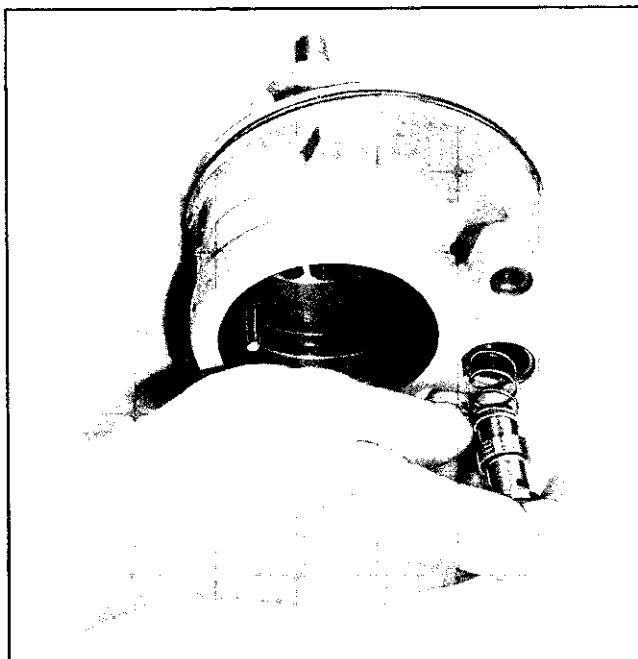
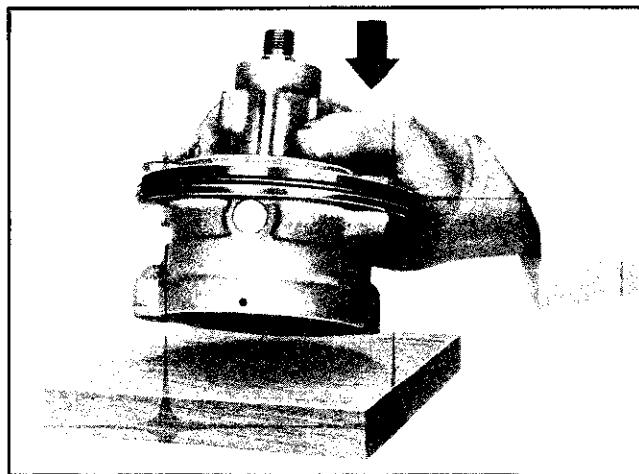

Fig. 9-75 Removing Flow Control Valve
Fig. 9-76 Removing Pressure Plate
8. With pump housing turned over, remove flow control valve and spring (Fig. 9-75) and tap housing on wood block until pressure plate falls free (Fig. 9-76).